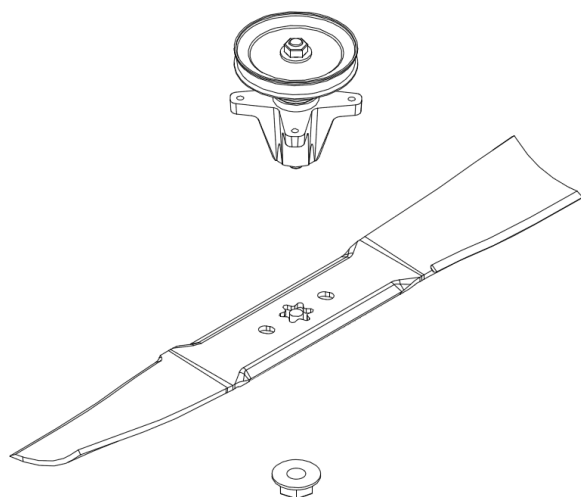

Fig.29
5. Remove the blade nut and blade.(Fig.29)